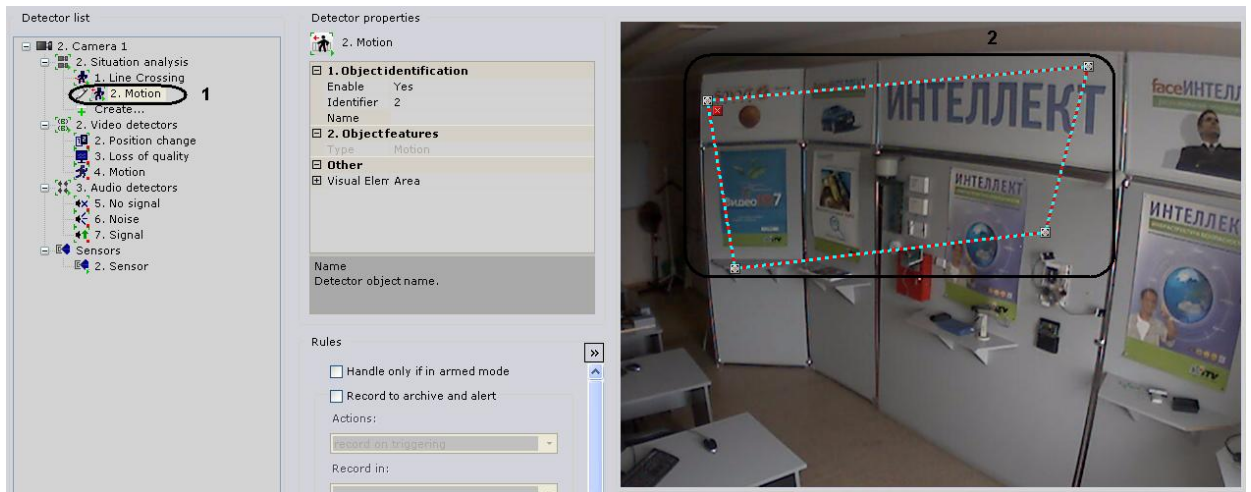

Fig. 6.5—9 Setting an area
- In the detector list, highlight the detector object for which you need to set an area (Fig. 6.5—9, 1).
2. In the viewing tile (see Fig. 6.5—9, 2) sequentially set the nodes of an area in which the situation is to be analyzed (Table 6.5—5).